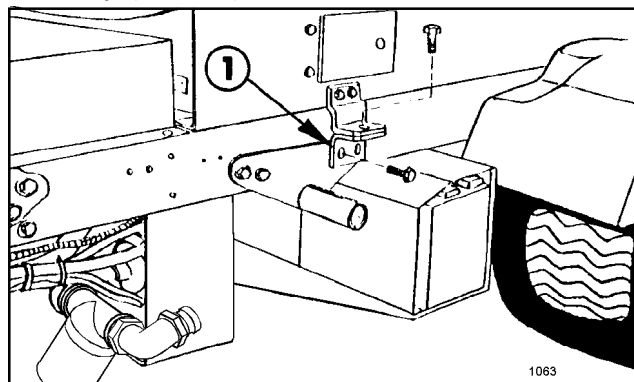

FIG. 10
12. Locate and remove the (2) 1/2" bolts on each side of the vehicle frame and install the attachment mounting bracket using the bolts earlier removed. Re-tighten the nuts and bolts securely (FIG. 10).